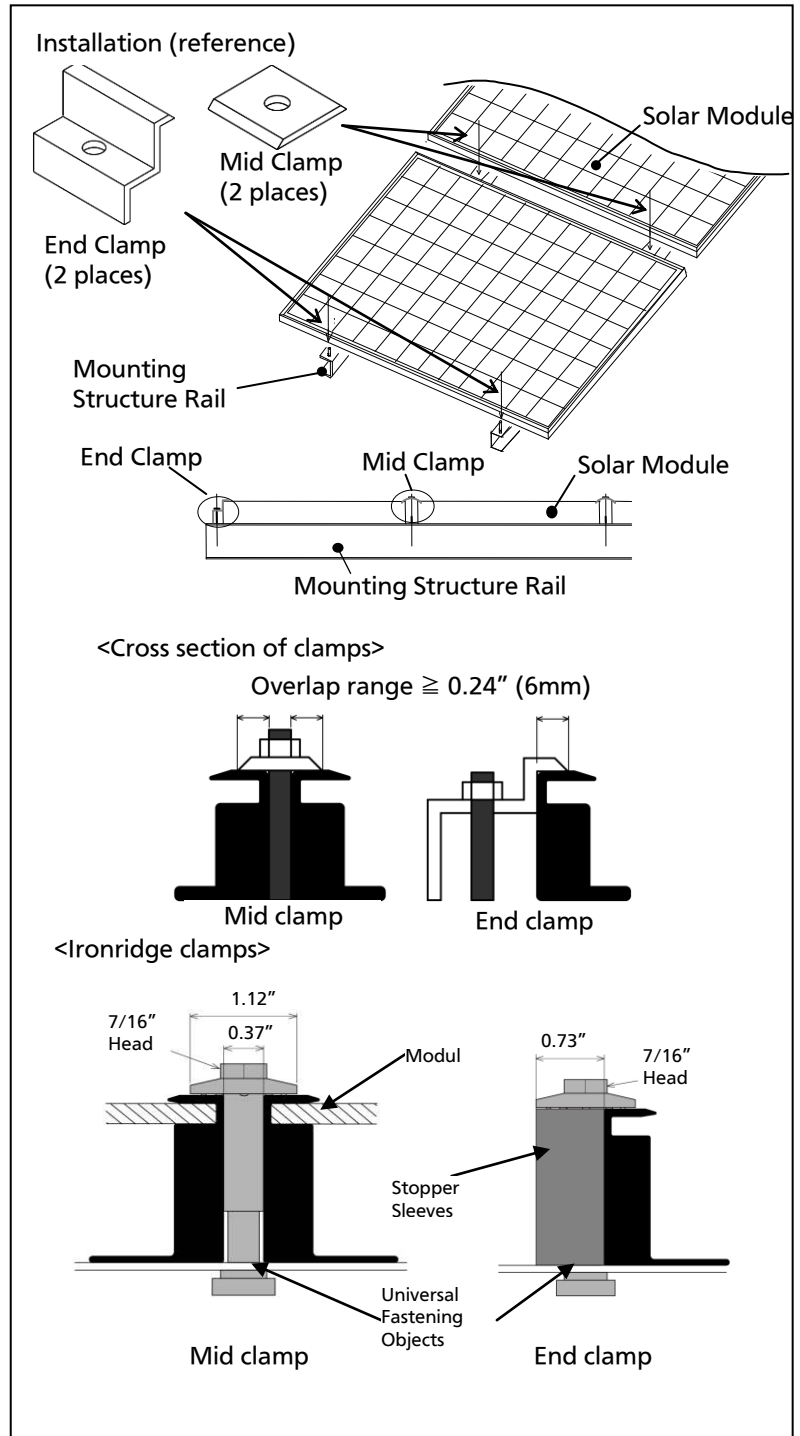

Figure 1-1. Installation
- Panasonic recommends the installation method and mounting profile shown in Figure 1-1 and Figure 1-2.
- Figure 1-1 shows that a module should be attached on a mount or support structure rail by corrosive-resistant metal clamps.
- The module was tested using IronRidge clamps with the specifications see figure 1-1 and below;